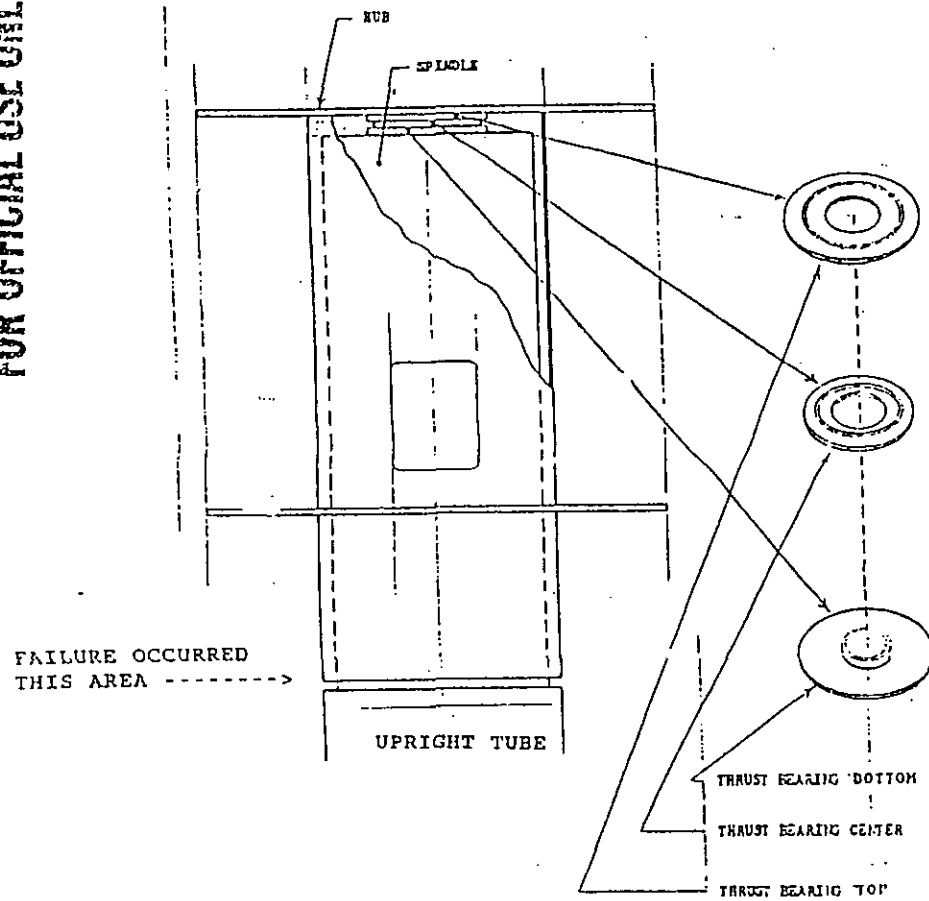

FIGURE 1 - AREA OF FAILURE
- Visually examine the center spindle/tower mast for cracking (Fig. 1), especially those areas covered by the fiberglass shroud. The visual inspection should be done during setup, and at takedown (the minimum inspection interval should be weekly, whether or not the ride is transported). Inspection will involve removing the shroud to reveal the areas to be inspected.
- Non-destructively inspect (Magnetic Particle) the critical areas identified by Zamperla, Inc. (Fig 1). Inspection should be done immediately and annually, thereafter. Inspection should be done by an inspector certified in the above technique. Non-destructive inspection may involved removal of paint from those critical areas to be inspected
( FIG. 1 )
1. Measure the gap between the hub and the upright tube. The gap should be 3/8-inch to 1/2-inch wide. If gap is insufficient, pull hub and upright tube apart. Inspect all surfaces for wear and cracking. Welds on the entire tubes surfaces and structure should be inspected for cracks. Repair as necessary. Non-destructive techniques should be used for crack inspection [See Fig.1].